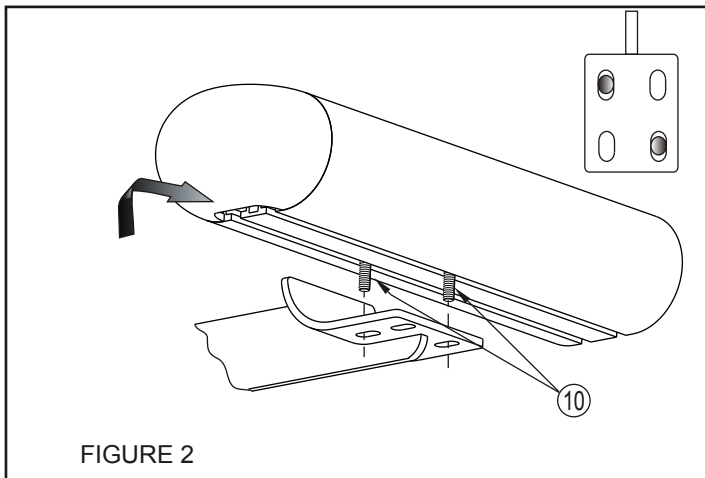

FIGURE 2
- STEP 4. Slide T-head bolts on step bar as shown (4 per slot, 8 per bar). Place step bar on saddle with long step pad forward and end cap screw facing inward. Assemble with 1/4" fasteners. **SEE FIGURES 2 AND 3.**